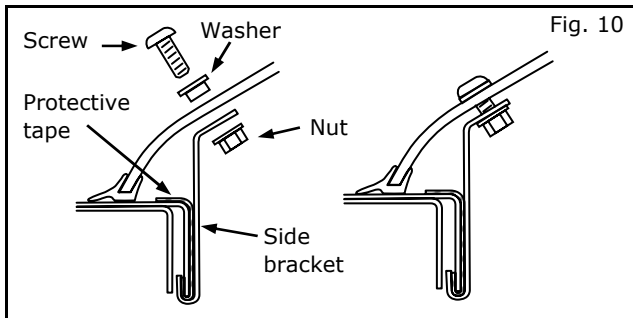

Fig. 10
13) Starting with side brackets, install washer and screw through moonroof deflector and bracket, loosely install nut and remove and discard masking tape holding the brackets, Fig.10.